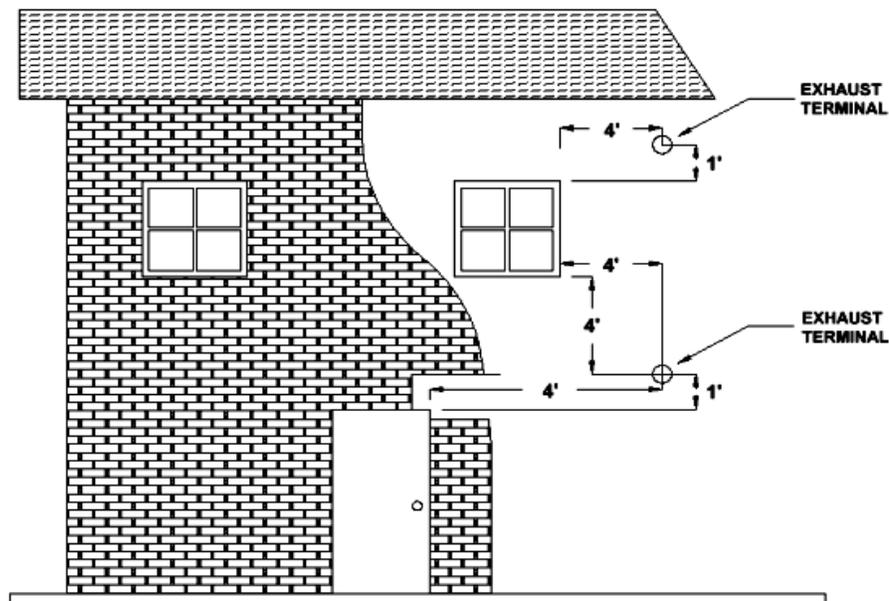

Figure 8
- a. **Without** Outside Air connected to the unit. For These types of installations please refer to the dimensions listed below in figure 8.